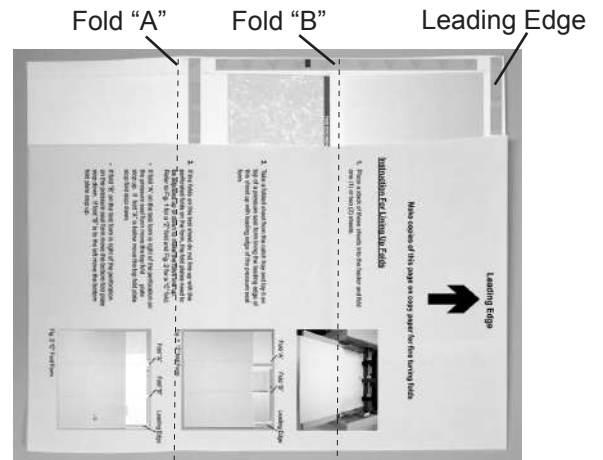

Fig. 1 "Z" fold Form
1. Place a stack of these sheets into the feeder and fold one (1) or two (2) sheets.
3. If the folds on this test sheet do not line up with the perforated folds on the form, the fold plates need to be adjusted up or down to make the folds line up. Refer to Fig. 1 for a "Z" fold and Fig. 2 for a "C" fold.